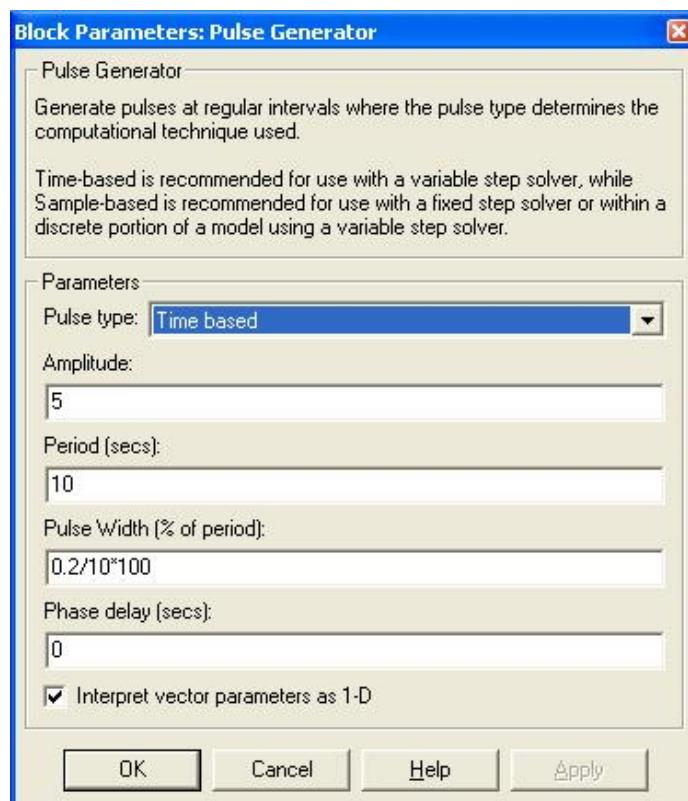

Figure 3.3: Pulse Generator configuration for Lab 3
4. As in Lab 9, enter the motor state equation using the values of k_E and τ that were estimated in Lab 1 (make sure that you specify the appropriate output). Double-click on the **Pulse Generator** icon and enter the information as shown in Figure 3.3. The **Pulse Generator** introduces the impulse function